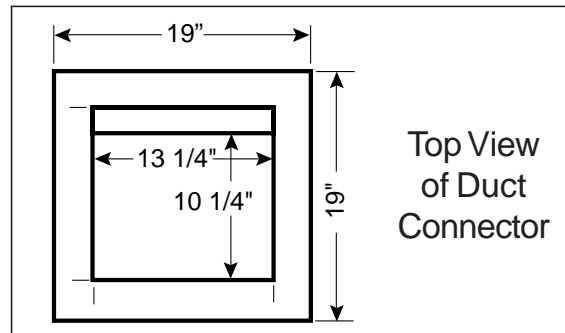

Figure 4.
- Locate center of the floor opening, measured 10" from the rear wall, and mark cut-out measuring approximately 14-1/2" by 14-1/2" (± 1 ") for model duct connector used (refer to Figures 4 & 5).